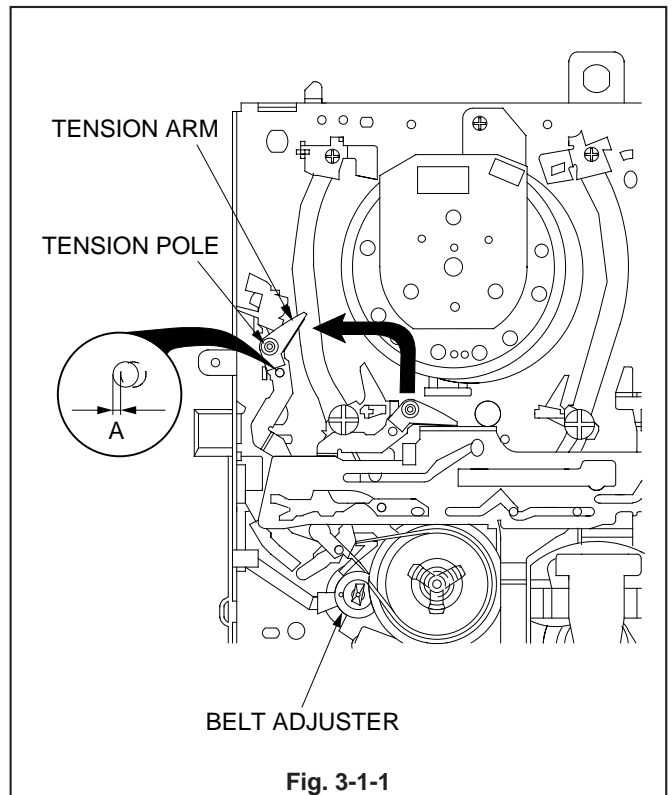

Fig. 3-1-1
2. Confirm that "A", the distance between the holes in the TENSION ARM and the MAIN PLATE ASSY shown in Fig. 3-1-1, is 0.3 ± 0.3 mm.
5. Confirm that "A" shown in Fig. 3-1-1 is 0.0 ± 0.5 mm.